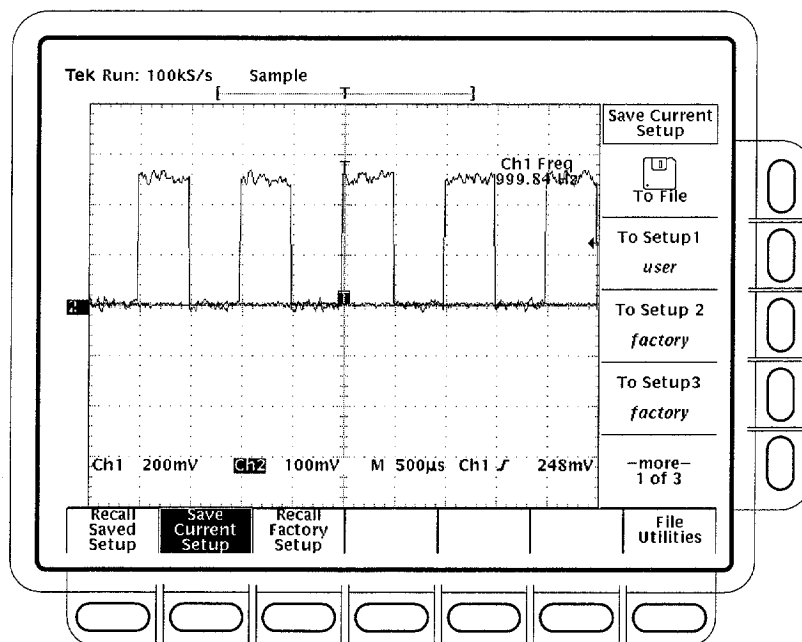

Figure 2-18: Save/Recall Setup Menu
6. Press **SAVE/RECALL SETUP** → **Save Current Setup** (main) to display the Setup main menu. (See Figure 2-18.)